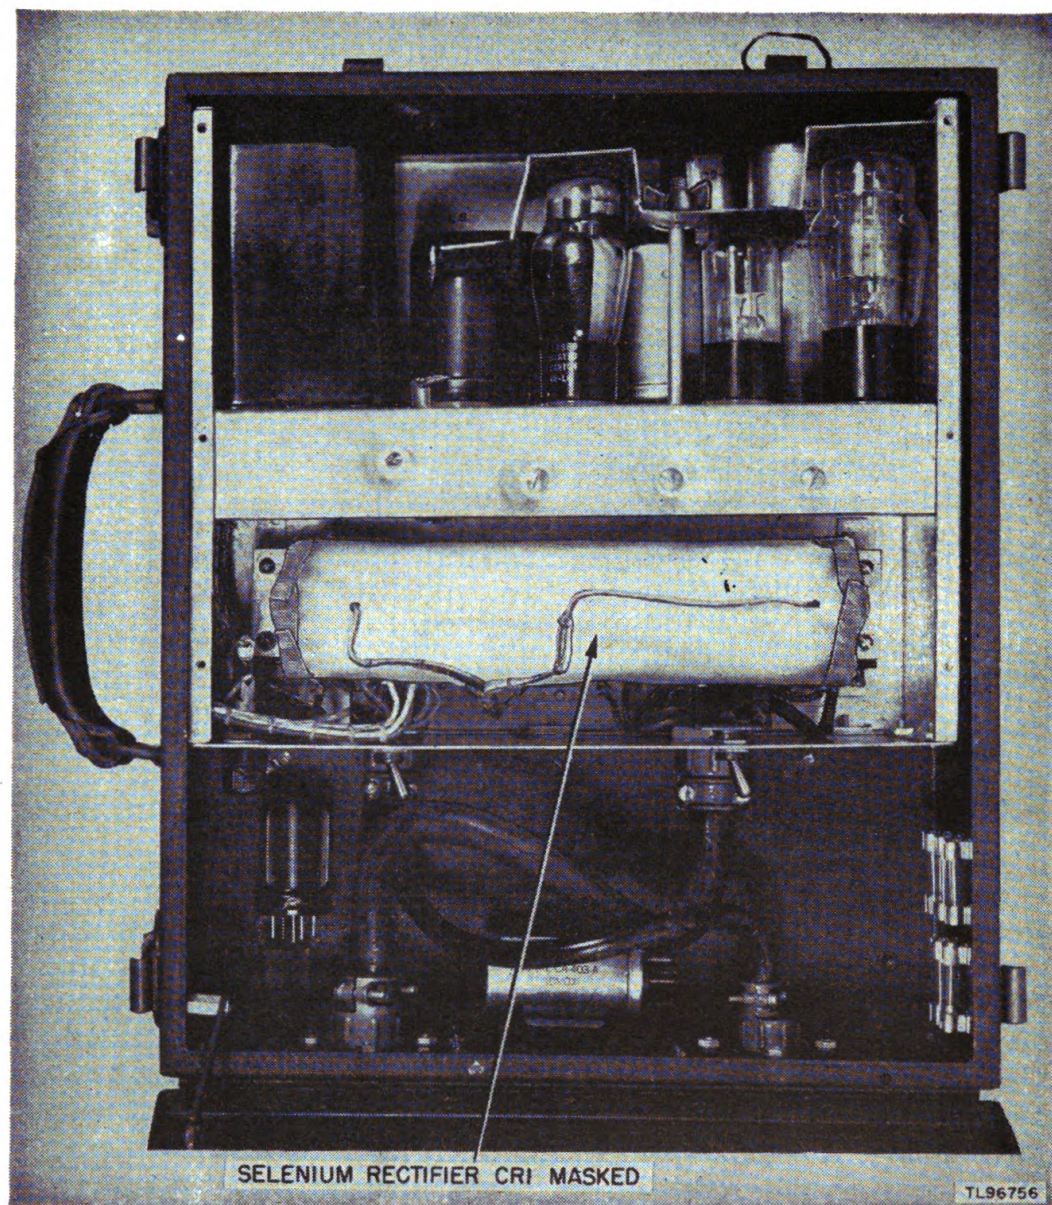

Figure 6. Top view of interior of rectifier chassis, showing selenium rectifier masked.
d. Masking. Mask or cover with cloth the selenium rectifier stack as shown in figure 6.
(1) Apply three coats of moistureproofing and fungiproofing varnish (Lacquer, Fungus-resistant, spec No. 71-2202 (stock No. 6G1005.3), or equal). Allow each coat to air-dry for 15 or 20 minutes before applying the next coat.
(2) Apply varnish immediately after the equipment is dried. If varnish is not applied immediately, moisture condenses on the equipment. Varnish applied over the moisture peels off readily after the varnish has dried.
(3) Spray all parts and circuit elements.
(4) Paint all parts that cannot be reached by spraying, using a small brush.